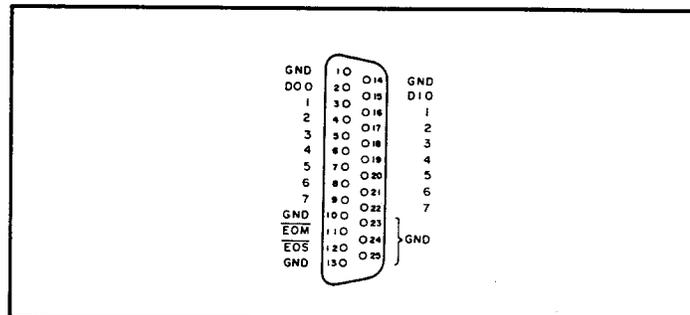

Figure 3-163. 8-bit I/O Connector
The 4194A has an 8-bit Input/Output port for communicating with peripheral devices. Communication is through the rear-panel connector labeled "8-bit INPUT/OUTPUT." Figure 3-163 shows the connector and its pin assignments. DI(0)-DI(7) and DO(0)-DO(7) are 8-bit parallel I/O ports, respectively. They can be accessed using BASIC's INPUT and OUTPUT statements in an ASP program. The two preceding statements were introduced in paragraph 3-6-4-2.